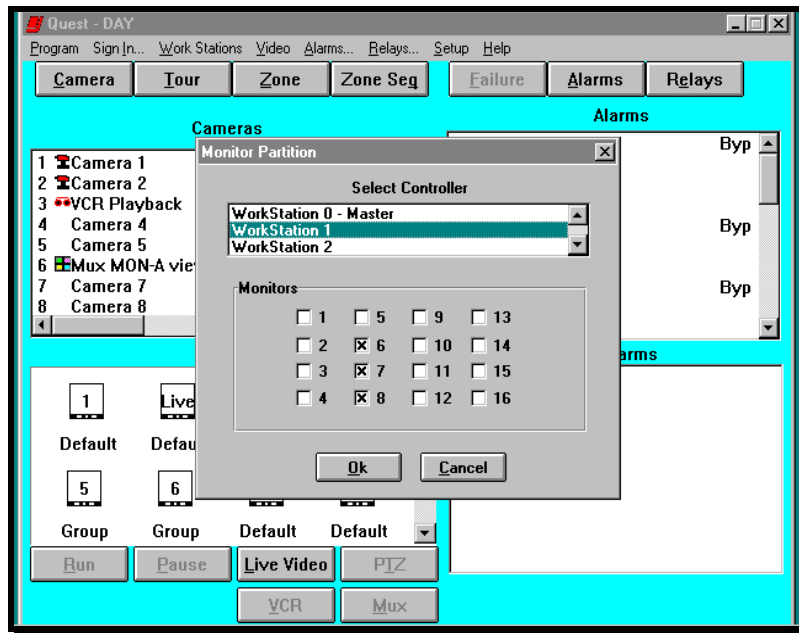

Figure 3-5. Monitor Partitioning
In order for a work station to switch a camera to a monitor, the monitors must be partitioned. Up to five (5) work stations can be assigned to any or all monitors for operation. Figure 3-5 illustrates the Monitor Partitioning screen.